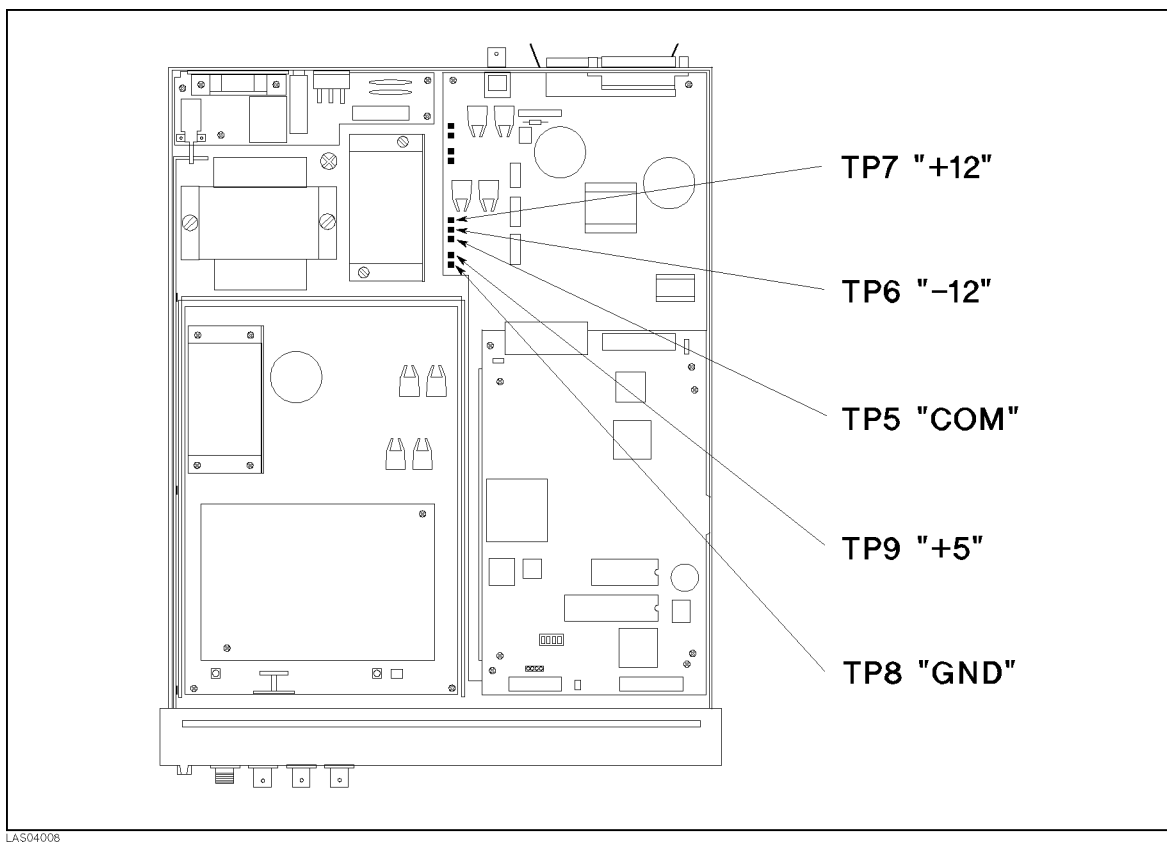

Figure 4-9. DC-DC Converter Output Voltage Check
3. Using a multimeter, check to see if the voltages between the test pads (TPs), shown in Figure 4-9, on A1 Main Board Assembly are in the ranges listed in Table 4-1.